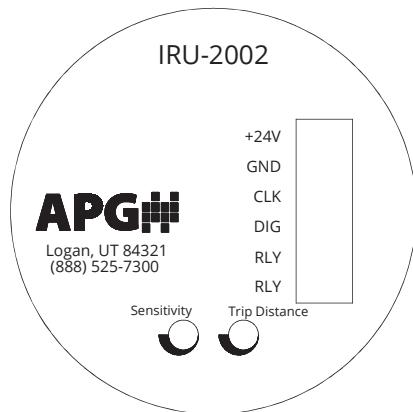
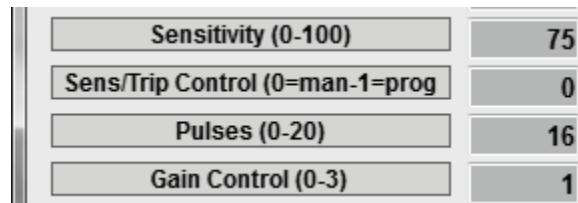

Figure 2.1
Figure 3.3
Potentiometers for setting or adjusting *Trip Distance* (IRU-2002 only) and *Sensitivity* (IRU-2002 and IRU-2003) are located inside the sensor housing along with terminal strips (See Figures 2.1 and 2.2). Both settings can also be controlled via the I2000SWR software (See Figure 3.3).
- For IRU-2002 and IRU-2003 sensors, system wiring must be connected to internal terminal straps prior to physical installation. (See Figures 2.1 and 2.2)
For IRU-2002 sensors, *Sensitivity/Trip Point Control* is used to select between potentiometer or software control of *Sensitivity* and *Relay Trip Point*. (See Figure 2.1)
4 mA Set Point sets the distance at which the output is 4 mA. This distance is measured from the Zero Point. See Figures 3.3 and 3.4.